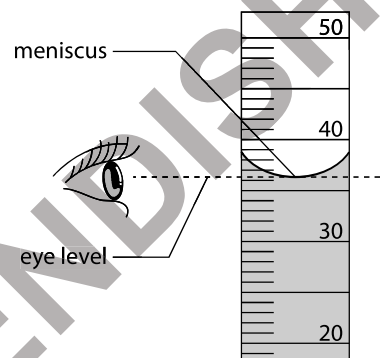

Figure 1.4
- 2 Position your eye so it is level with the bottom of the meniscus, as shown in Figure 1.4.